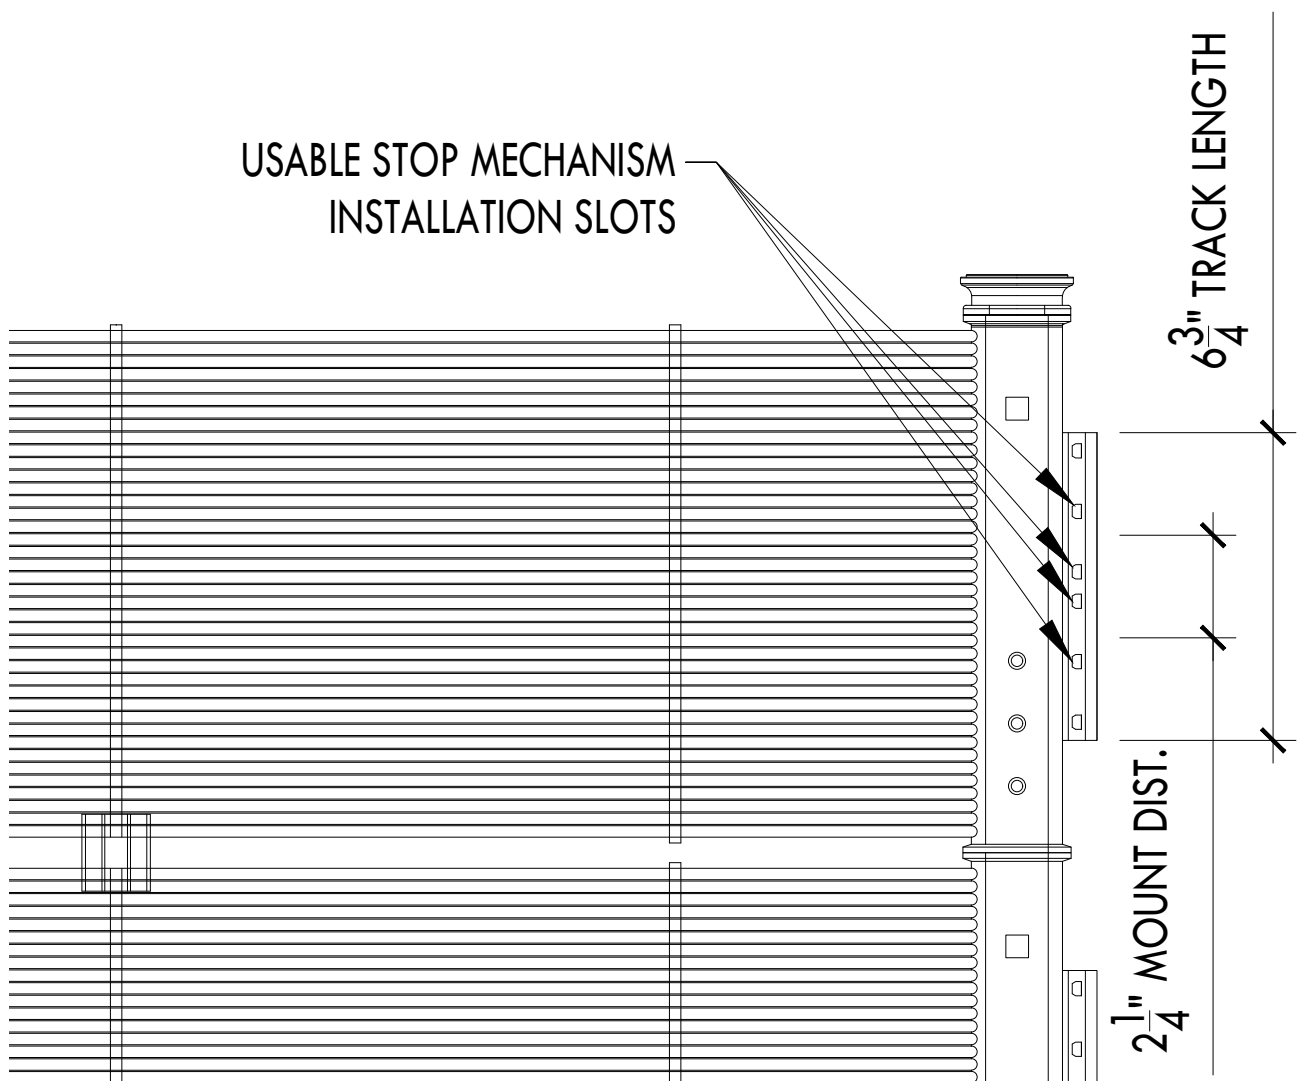

Fig. 9.3
1. The center collector of a bank may be locked in place by locating the mounting pad in place and using a heavy-duty zip ties on either side of the mounting pad. The zip ties should be fed through the slots in the mounting track and tightened that the track and mounting pad are locked in place (See Fig. 9.3).